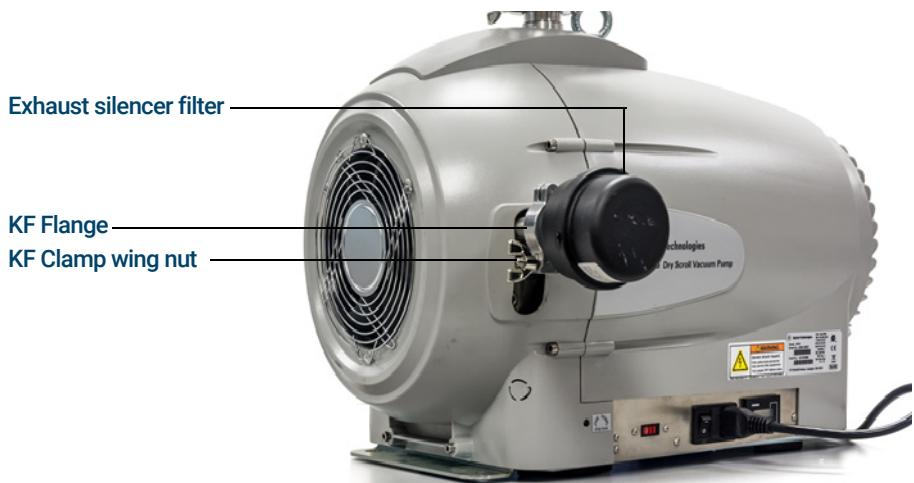

Figure 19. Foreline pump exhaust silencer filter
- 1 Unscrew the wing nut on the clamp. (See **Figure 19** on page 104.)
- 1 Place the O-ring against the IDP-15 exhaust. (See Figure 19 on page 104.)